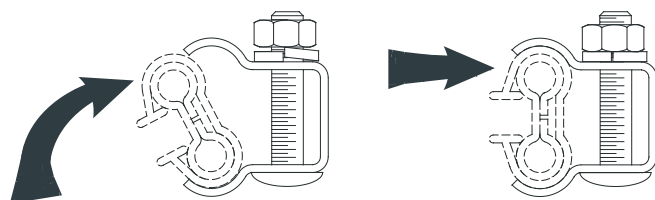

Fig. 2.8.4
2.8.7 Snap side contact conductor into hanger clamp then tighten mounting bolt (see Fig. 2.8.4).